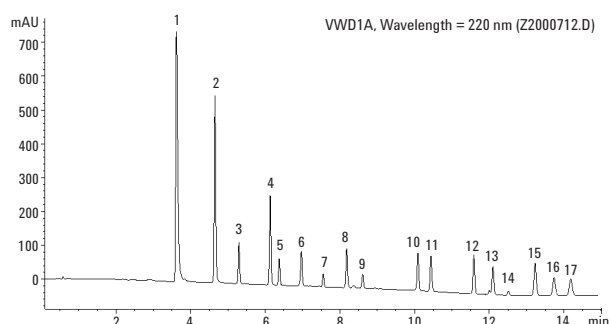

Figure 1. Agilent ZORBAX RRHD Eclipse PAH QA chromatogram.
A typical quality assurance (QA) test chromatogram for a 2.1 mm × 100 mm, column loaded with 1.8-μm Agilent ZORBAX RRHD Eclipse PAH particles is shown in Figure 1. The quality control (QC) test with the performance of your column is shown in the Column Performance Report enclosed. You will also find a specific batch QA test with a PAH sample in the report.